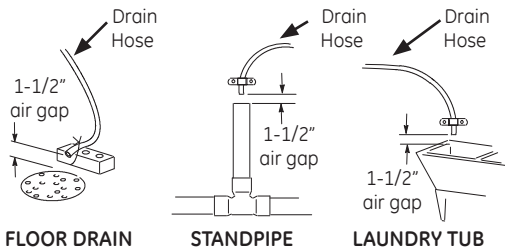

Figure 1
A drain is needed for regeneration water (See Figure 1). A floor drain, close to the water softener, is preferred. A laundry tub, standpipe, etc. are other drain options. Secure valve drain hose in place. Leave an air gap of 1-1/2" between the end of the hose and the drain. This gap is needed to prevent back flow of sewer water into the water softener. Do not put the end of the drain hose into the drain.
2. Route the drain hose or copper tubing to the floor drain or other suitable drain point. Secure drain hose. This will prevent "whipping" during regenerations. See "Air Gap Requirements" section (Figure 1).